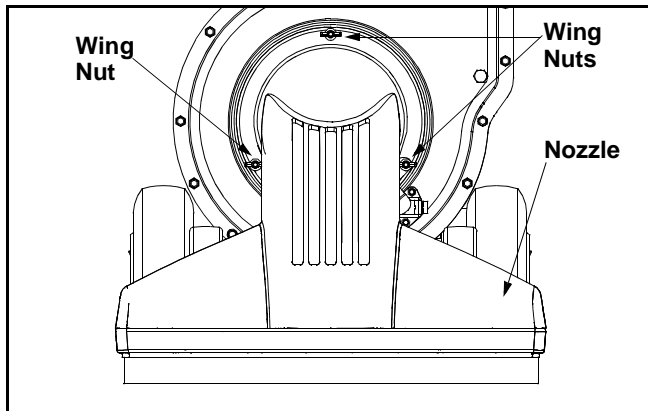

Figure 2
- Place nozzle in position over the three studs on unit and secure with wing nuts just removed. See Figure 2.